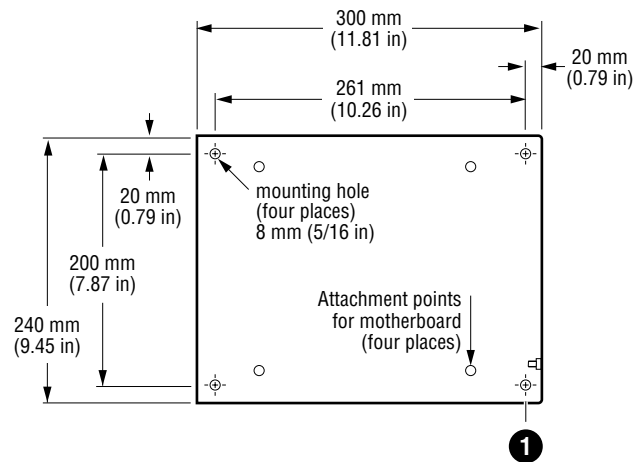

Figure 2.1. Mounting hole locations.
Note: The illustration and callouts on the inside front cover of this manual use circled numbers (❶) to identify features of the MoniTrace 200N control unit. The item numbers in this section (Figures 2.1 through 2.19) correspond to those numbered features on the inside front cover.
Install the enclosure using the four screws in the prepunched 8 mm (5/16-inch) mounting holes with centers as shown in Figure 2.1. If plastic plugs are in the mounting holes, remove them. Make sure the rubber elastomeric washers (provided in the MoniTrace 200N shipping box) are aligned to seal around the mounting screws to maintain the NEMA 12 and IP54 ratings.